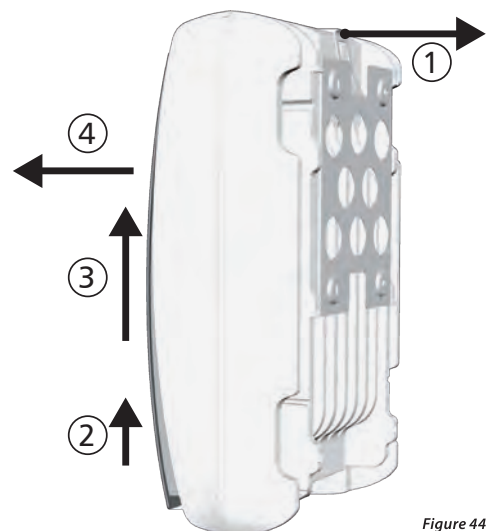

Figure 44
1. Use one hand to press the retaining plate on the mounting plate approx. 5 mm towards the mounting surface ① (Figure 44)
2. Use the other hand to push the inverter upwards, far enough so that the retaining plate no longer latches ② Release the retaining plate.
3. Lift the inverter with both hands until the hooks on the rear side of the inverter are free ③
4. Remove the inverter from the mounting surface ④